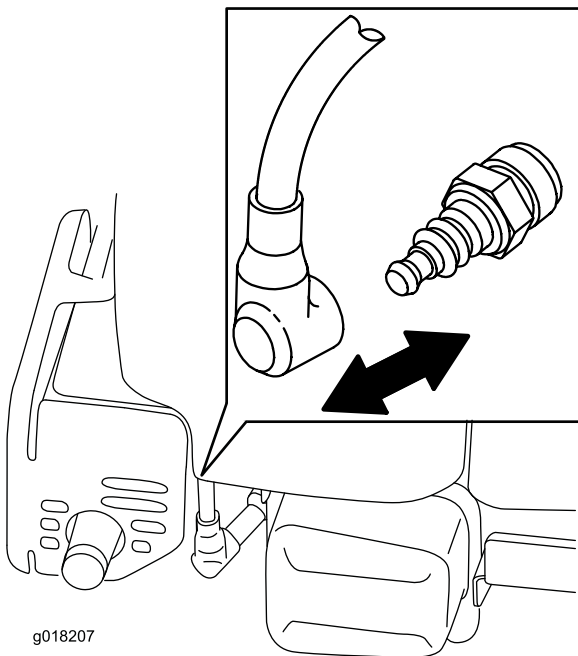

Figure 16
- Disconnect the spark plug wire from the spark plug (Figure 16) before performing any maintenance procedure.